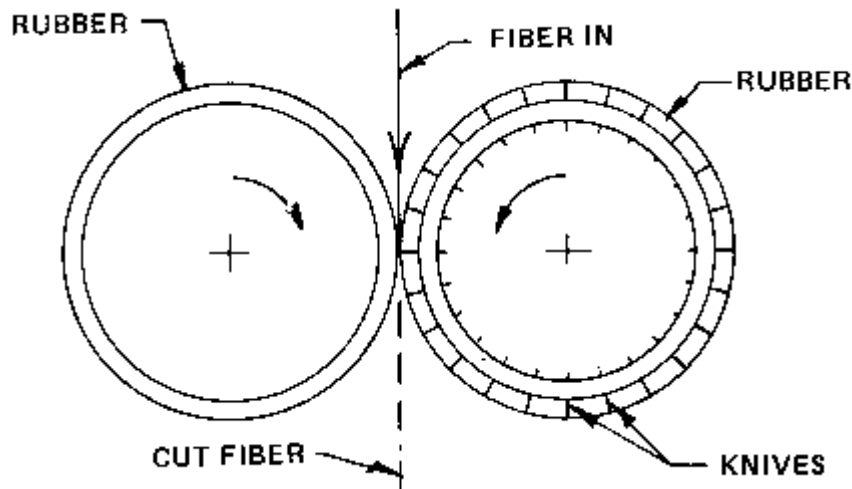

Figure 14
3. **Rubber covered squeeze rolls with protruding knives:** See Figure 14. In this method, two rolls form a pulling nip, with one roll having spaced knives protruding into the rubber covering on the other. This method is widely used to cut (fracture) glass fibers and some easily cut synthetics. The disadvantages are rapid dulling of knives, hence poor fiber end conditions; broken knives; double lengths (by embedding in rubber around edge of knife); and excessive noise and maintenance.